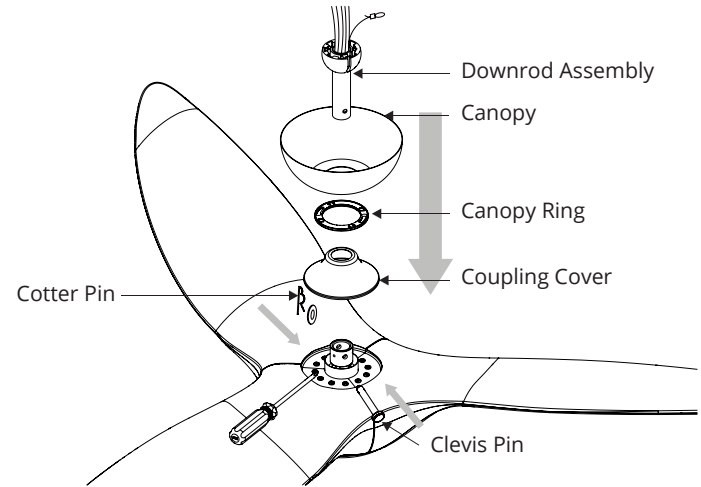

FIGURE 13
1. Remove the clevis pin and cotter pin and loosen the two collar screws from the motor collar (Fig. 13).
4. Thread the downrod assembly onto motor collar. Align the holes of the downrod and collar and insert the cotter pin and clevis pin. Tighten the two collar screws (Fig. 13).
Receiver to house supply wires electrical connections: (Fig. 13)